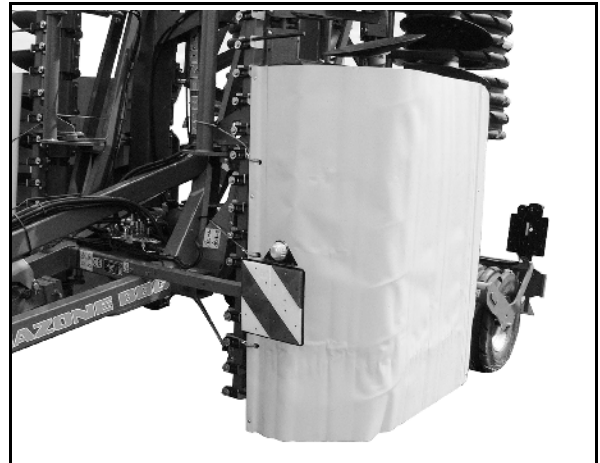
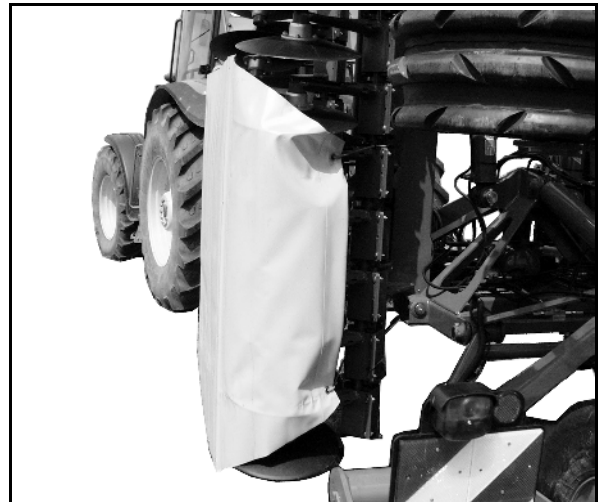

Fig. 64
Fig. 65
2. Fit the protective tarpaulins around the disc rows and secure with belts. (3 belts at front (Fig. 64) / 2 belts at back (Fig. 65).